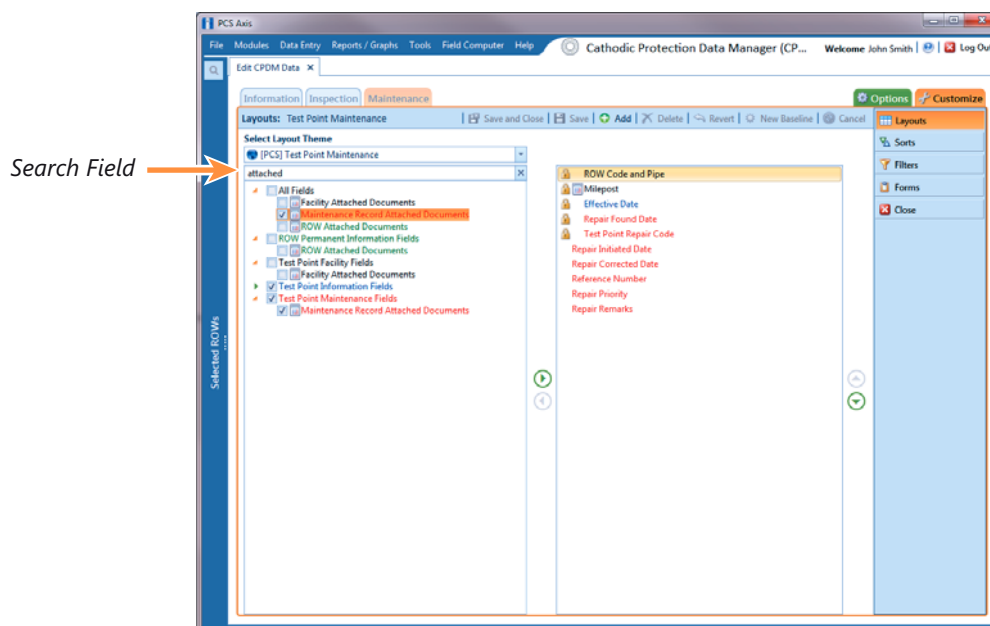

Figure 7-97. Layouts
- Click the check box for the field **Maintenance Record Attached Document** in the left pane of the window (Figure 7-97, page 292).